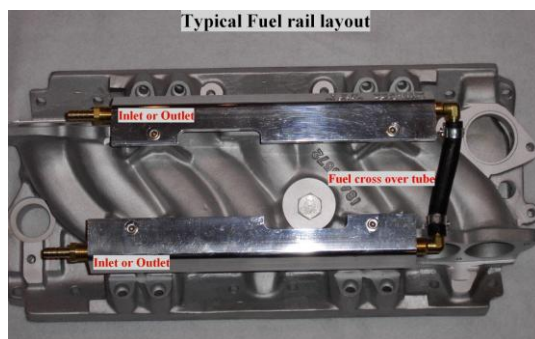

Figure 9
5. It is easier to install your fuel line hose to the fuel rail at this time. Referring to Figure 9, determine a suitable mounting location for the secondary fuel filter and fuel pressure regulator with gauge. Allowing a little extra length, cut the 3/8" supply and 3/8" return line to reach from the fuel rail to their respective locations.
11. Mount a fuel pressure regulator. The smaller vacuum port on the rear of the plenum connects to the fuel regulator. Keep in mind, fuel pressure tests will be made before the regulator. (See figure 9)